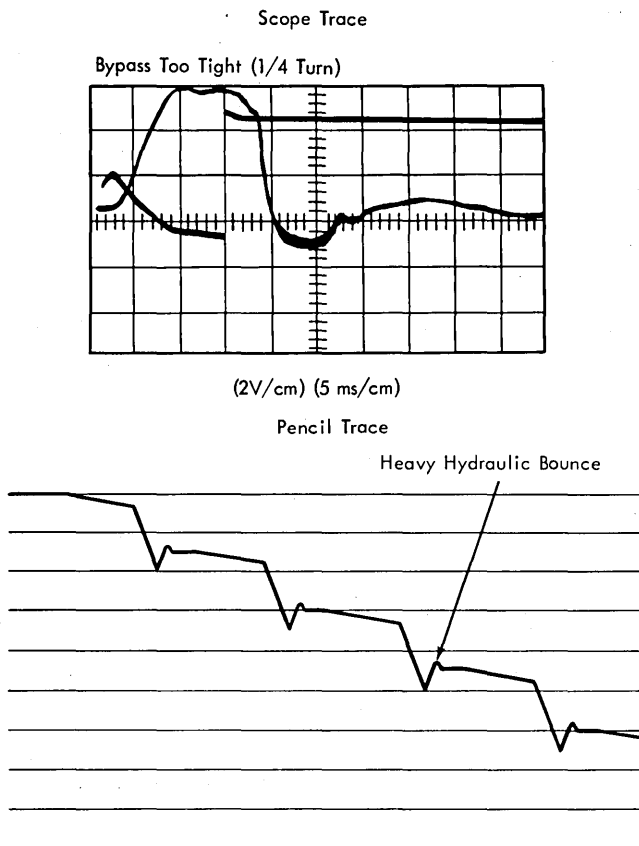

Figure 4-69. Bypass Too Tight (Hydraulic Bounce)
- b. Turn in on the bypass needle valve until it is too tight as shown by the scope trace and line graph in Figure 4-69.